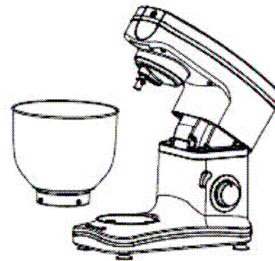

Fig.4
3. Place bowl in base and turn clockwise until it locks in place. (Fig.4). Add ingredients. Place the lid on the bowl.